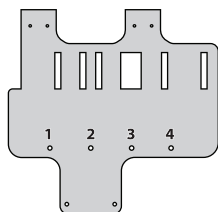

Figure 6
1. Using Figure 6 and the chart below, locate the correct mounting hole location on the mounting bracket for your tractor: